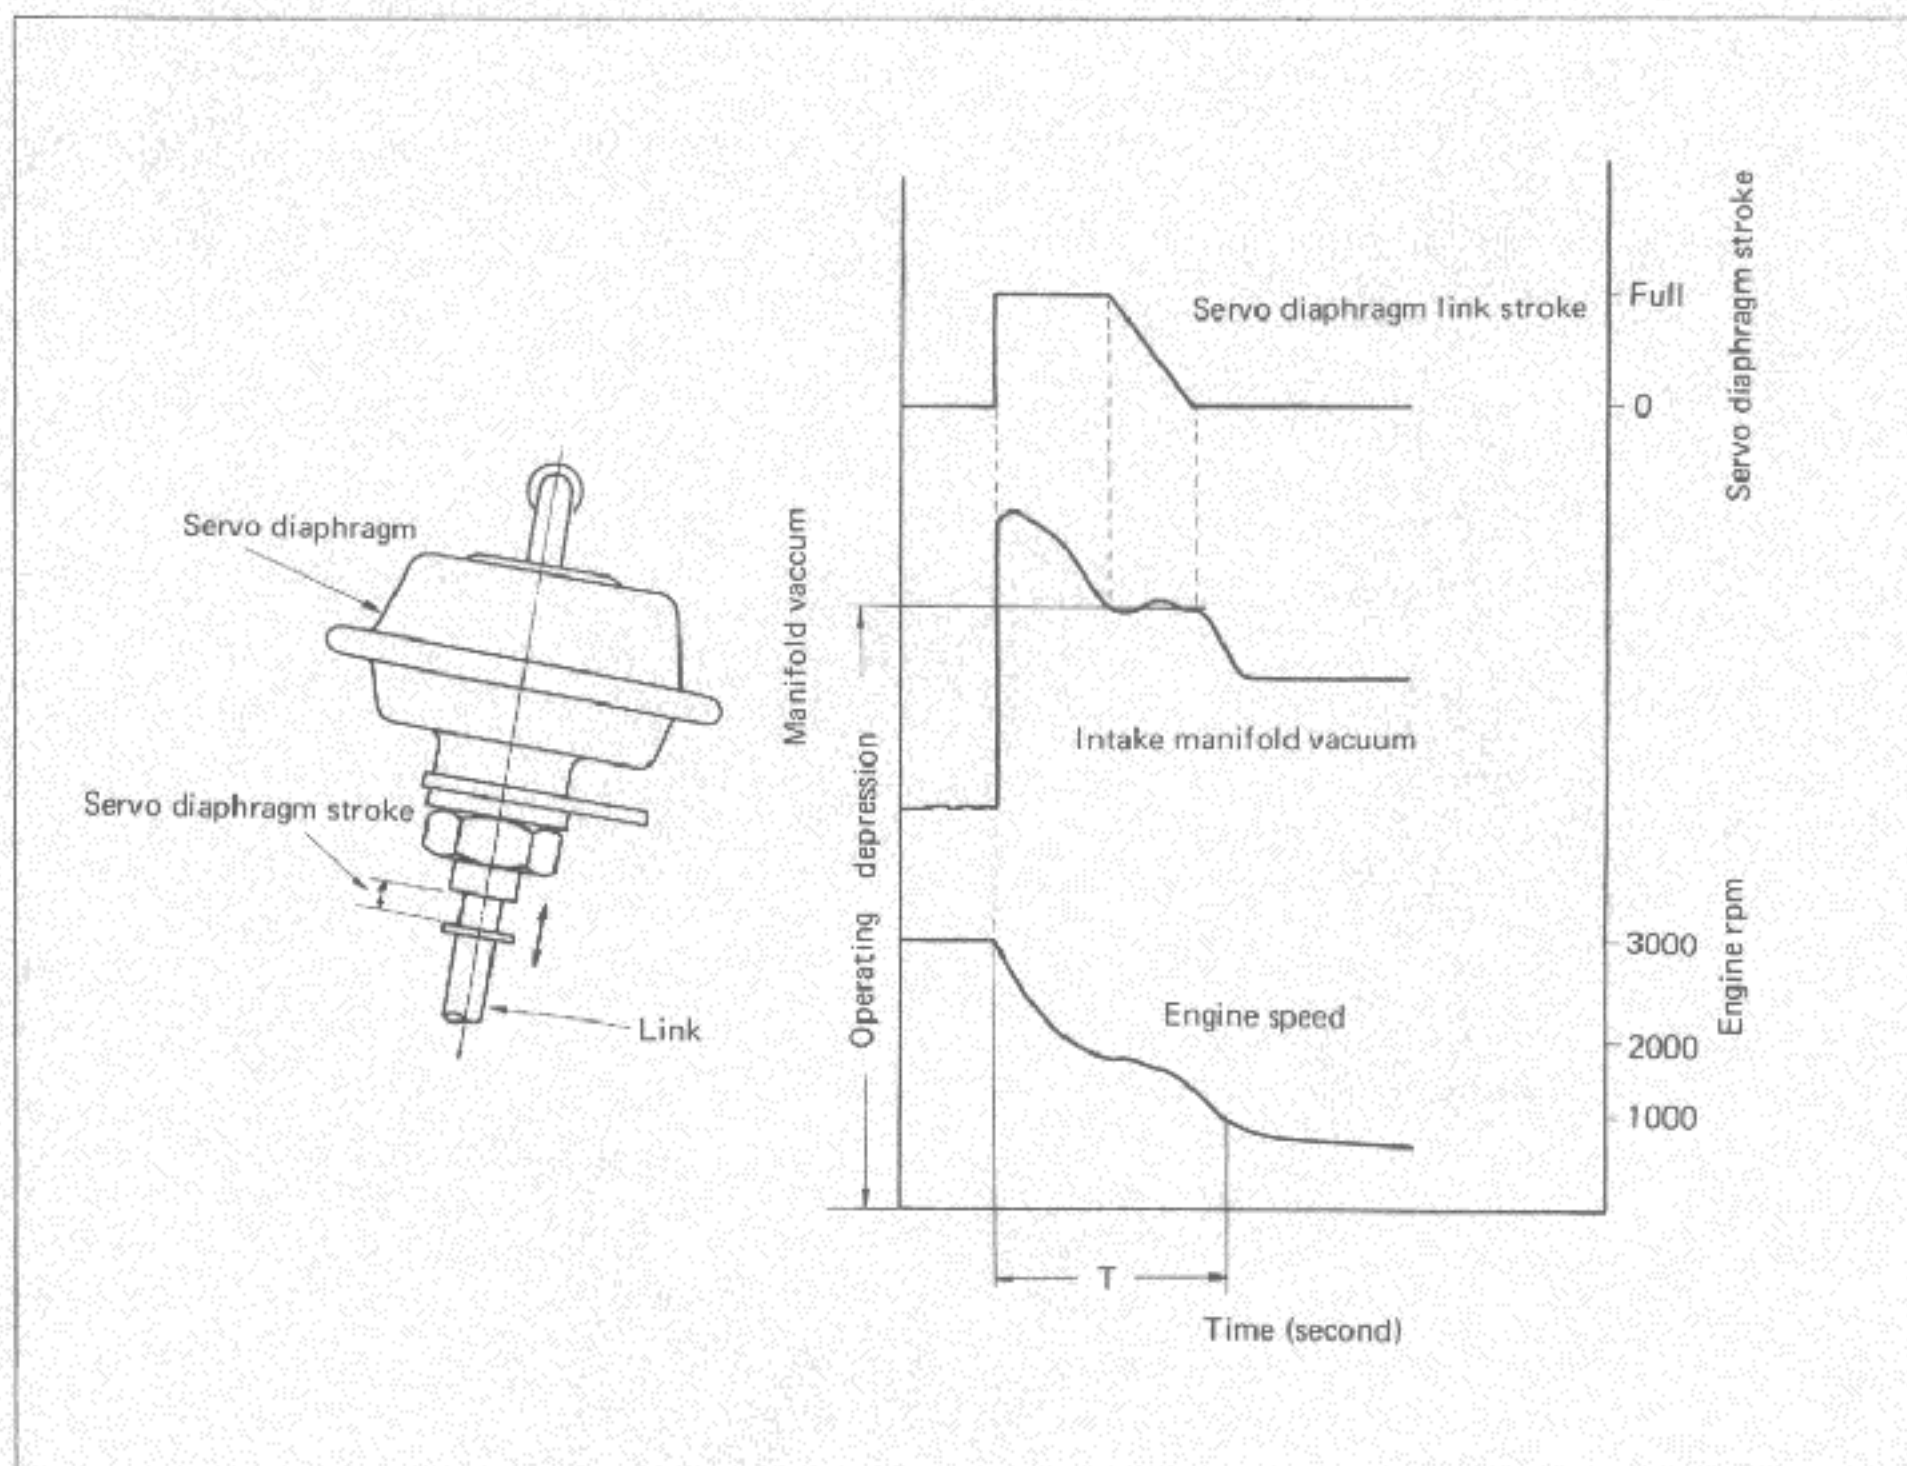

Fig. EC-12 Changes in servo diaphragm link stroke, intake manifold vacuum and engine speed
to the primary throttle valve shaft controls primary throttle valve opening. When engine speed is increased to approximately 3,000 rpm and lowered naturally from this speed, changes in servo diaphragm link stroke, intake manifold vacuum, and engine speed are as shown in Figure EC-12.
As engine speed lowers, negative pressure generated in the intake manifold also lowers. However, dropping of negative pressure in the intake manifold is suspended for a few seconds by operating the servo diaphragm and control valve. (In the graph shown in the Figure EC-12, curve is comparatively flat.) Thus, condition under which HC emission gas is easily generated is controlled.
the Figure EC-12 is called "Operating depression".
2. With the engine unloaded, increase engine speed to 3,000 rpm, and release the throttle valve lever. Normally, engine speed lowers as shown in Figure EC-12.